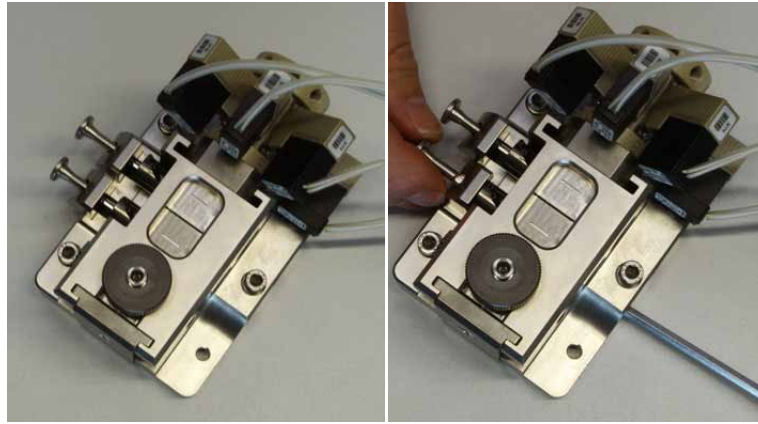

Fig. 50: Installing the holding hooks
6. Carefully pre-align the assembled holding hook with the main body of the pump head by sliding the holding hook with the piston and guide bushing into the main body. Do not push the piston into the seal yet (→ Fig. 50).